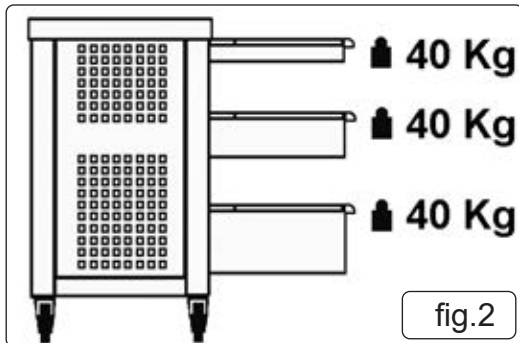

fig.2
①		1
②		4
③		2
④		8
⑤		8
⑥		8
⑦		2
- ❑ **WARNING!** Only open one drawer at a time and **DO NOT** overload the drawers, fig.2 shows the maximum weight per drawer size.